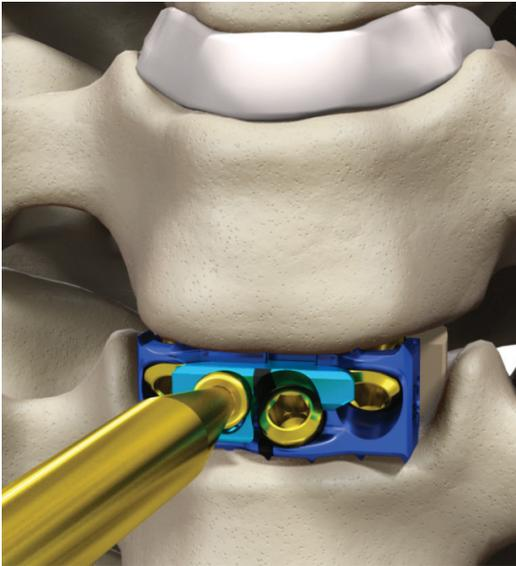

Figure 21
- Once all screws are fully seated within the plate, assemble the gold locking cap driver and torque limiting handle. Insert the locking cap driver into the gold locking screw. Ensure that the tip of the driver is fully seated in the screw pocket and that the driver is on axis to the locking screw (Figure 21).